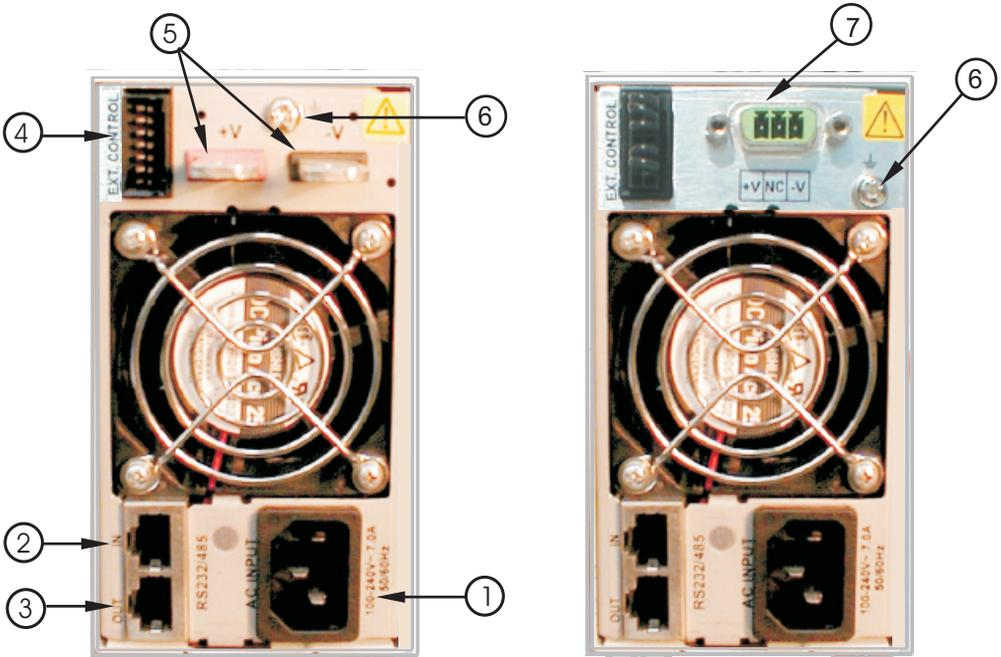
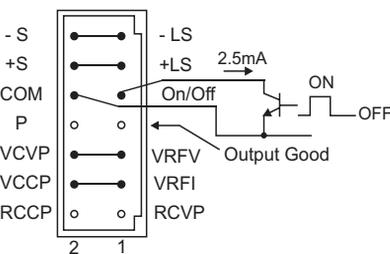
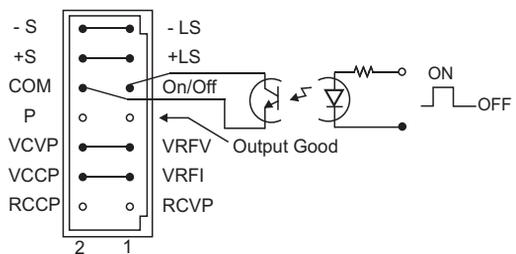

Fig. 4-2: Rear panel connections
Fig. 4-3: ON/OFF Control, references to - Sense.
Fig. 4-4: Floating ON/OFF Control
Contacts 9, 10 at the rear panel External Control connector (fig. 4-2, item 4) serve as ON/OFF terminals. Either short circuit or TTL '0' level enables the power supply output and open circuit or TTL '1' level disables the power supply's output. An open collector transistor can be used for the ON/OFF control as shown in fig. 4-3, with sink current ability of more than 2.5mA. Please note that pin 10 (COM) is internally connected to the - Sense potential, therefore for floating ON/OFF Control a photocoupler should be used as shown in fig. 4-4.